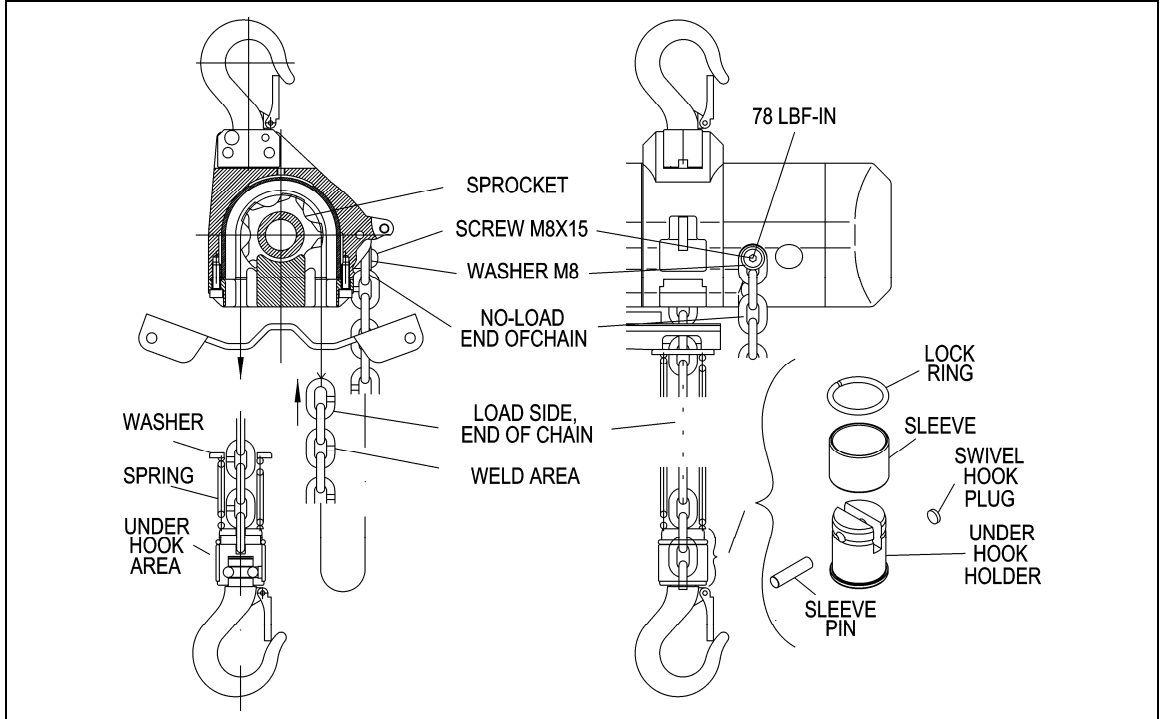
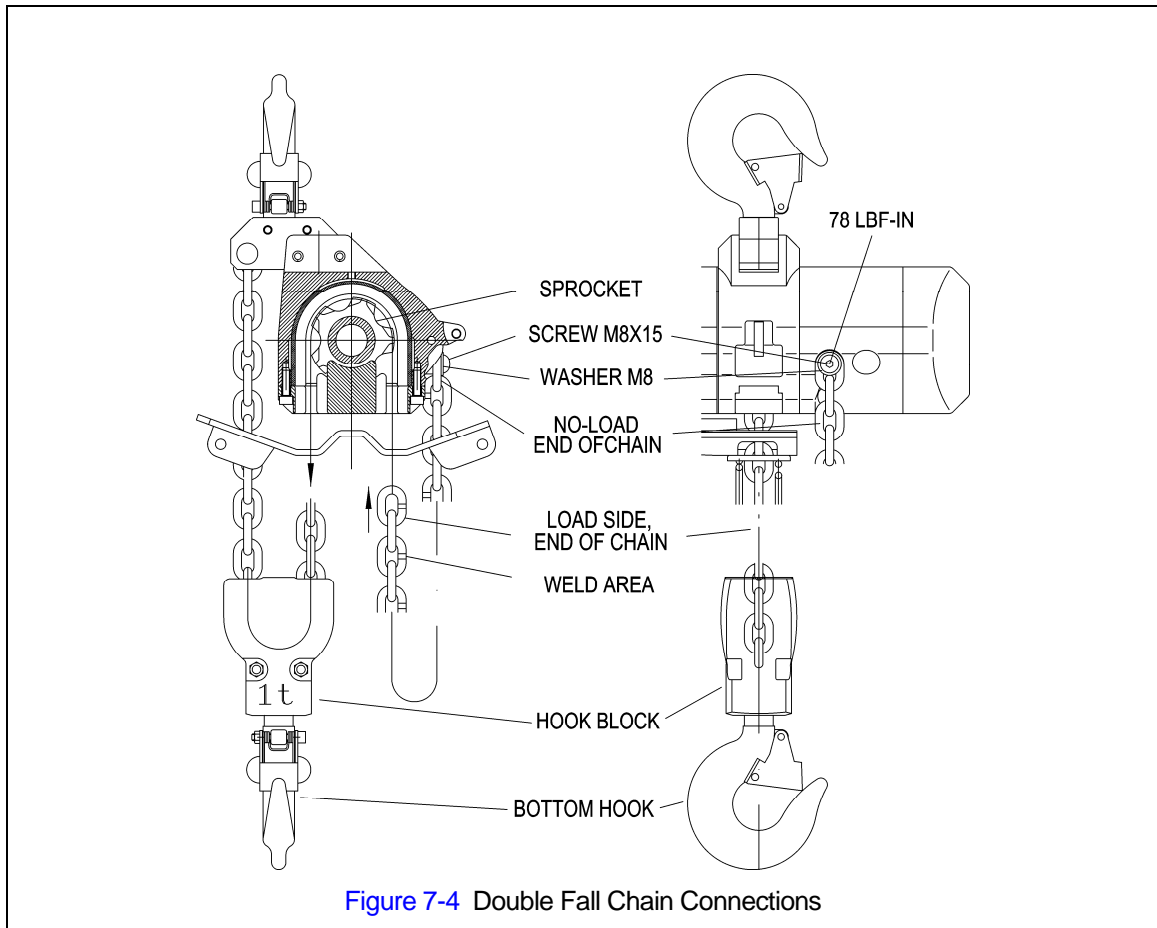

Figure 7-3 Single Fall Chain Connections
Figure 7-4 Double Fall Chain Connections
- 12) Ensure that of the Chain remains free of twists and attach the no-load end of the chain to the hoist body with the Flat Washer and Button Head Screw. Reinstall the Bottom Hook Complete Set. Torque the Button Head Screw to 78 lbf-in. Refer to Figure 7-3 and Figure 7-4.